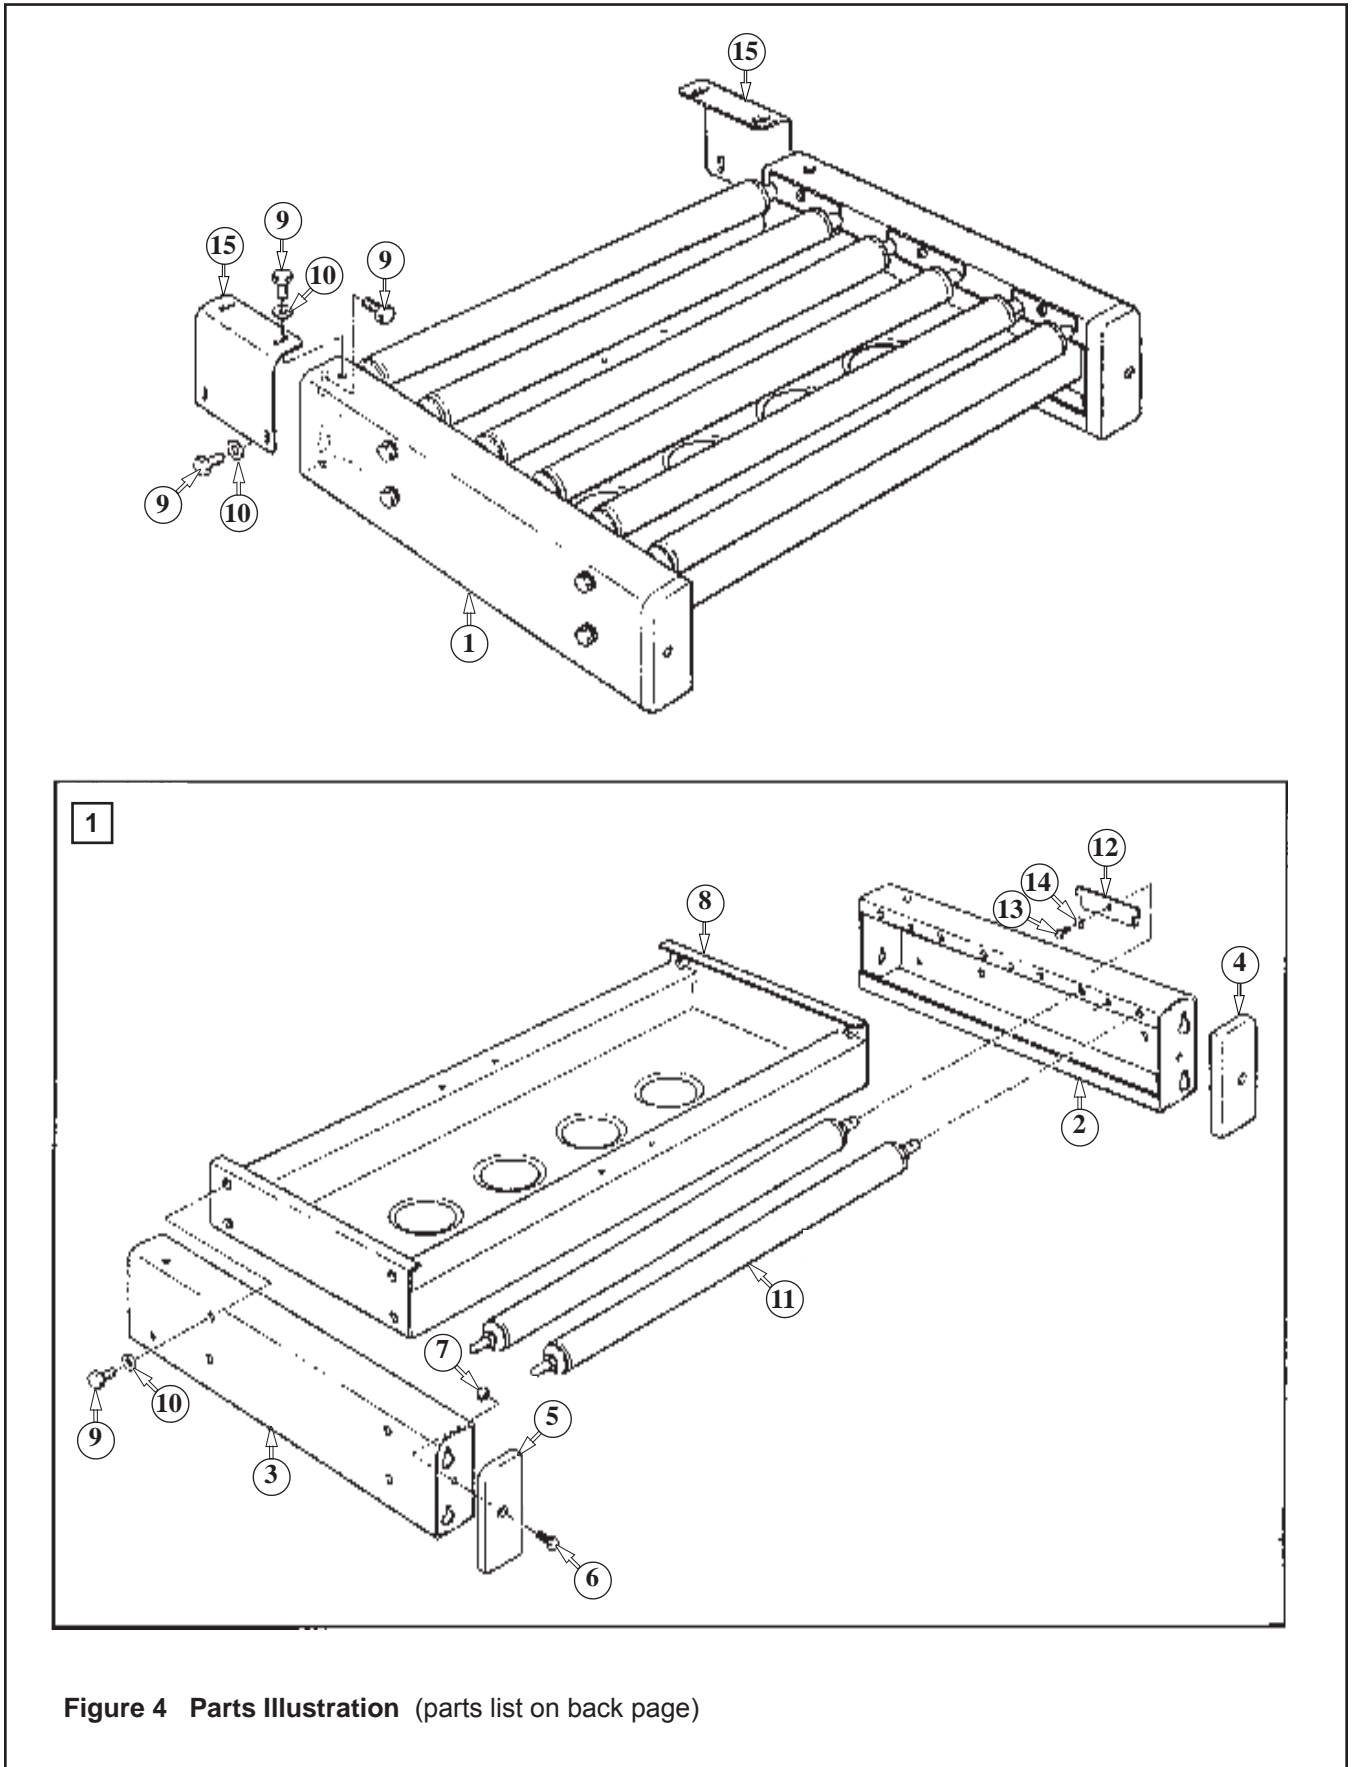

Figure 4 Parts Illustration (parts list on back page)
1. Refer to parts illustration **Figure 4** to find part needed and reference number.